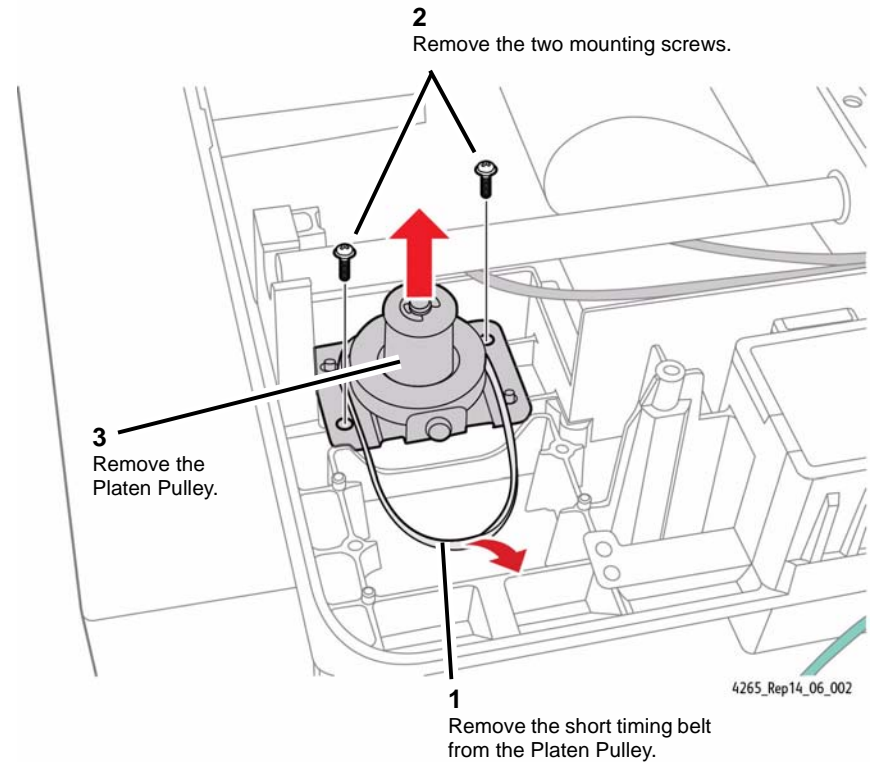

Figure 2 Removing the Platen Pulley
3. Remove the Platen Pulley (Figure 2):